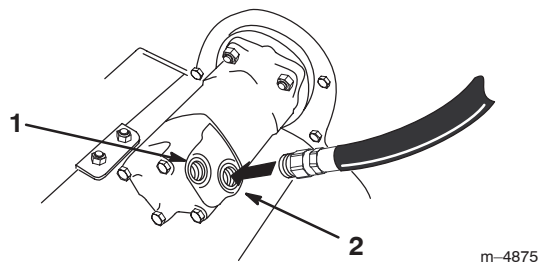

Figure 3
2. Thread the female hydraulic hose into the lower/right hole (Fig. 3).
3. Thread the male hydraulic hose into the upper/left hole (Fig. 3).